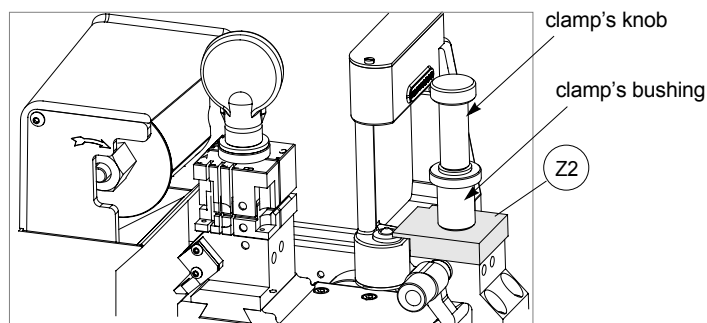

Fig. 64
4) fi the (Z2) template and the clamp's bushing securing it with the clamp's knob (fig. 64).